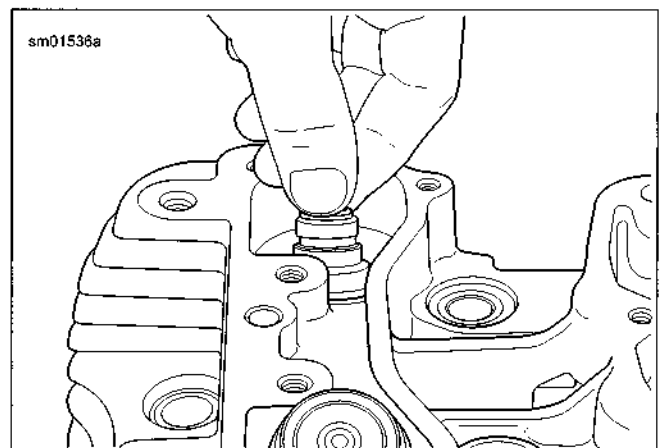

Figure 3-45. Valve Seal and Lower Valve Collar Assembly Installation
4. See Figure 3-45. Place a new seal and lower valve collar assembly over valve stem and onto valve guide.